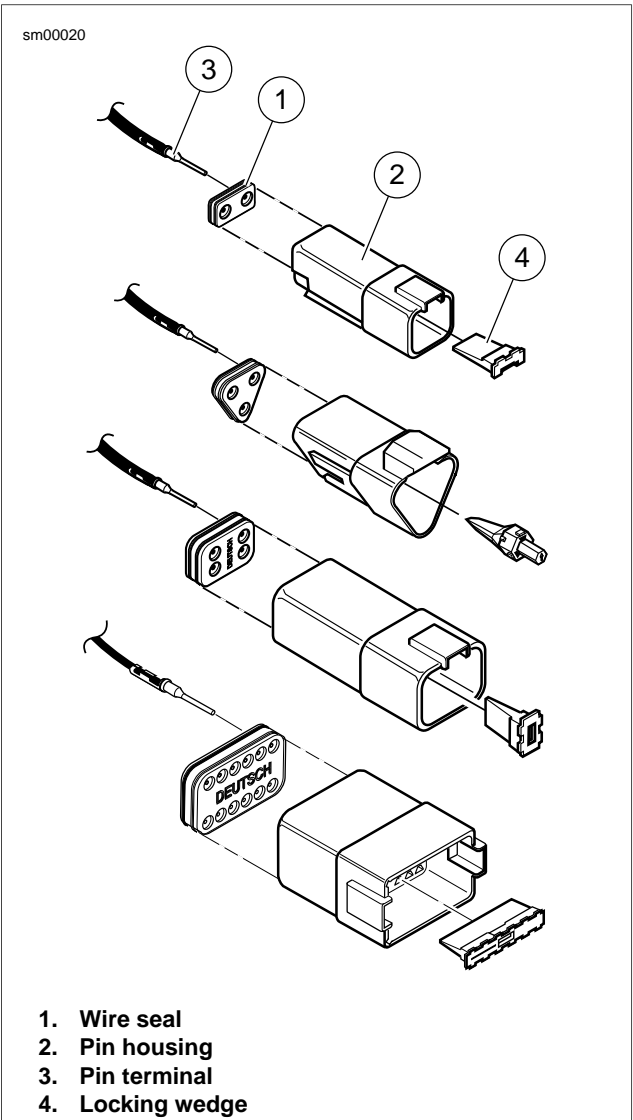

Figure A-22. Deutsch Connector: 2, 3, 4 and 12-Place Pin Housings
1. See Figure A-22. Fit wire seal (1) into back of pin housing (2).
2. Grasp wire lead approximately 1.0 in. (25.4 mm) behind the pin terminal (3). Gently push pin through holes in wire seal into its respective numbered chamber until it "clicks" in place.